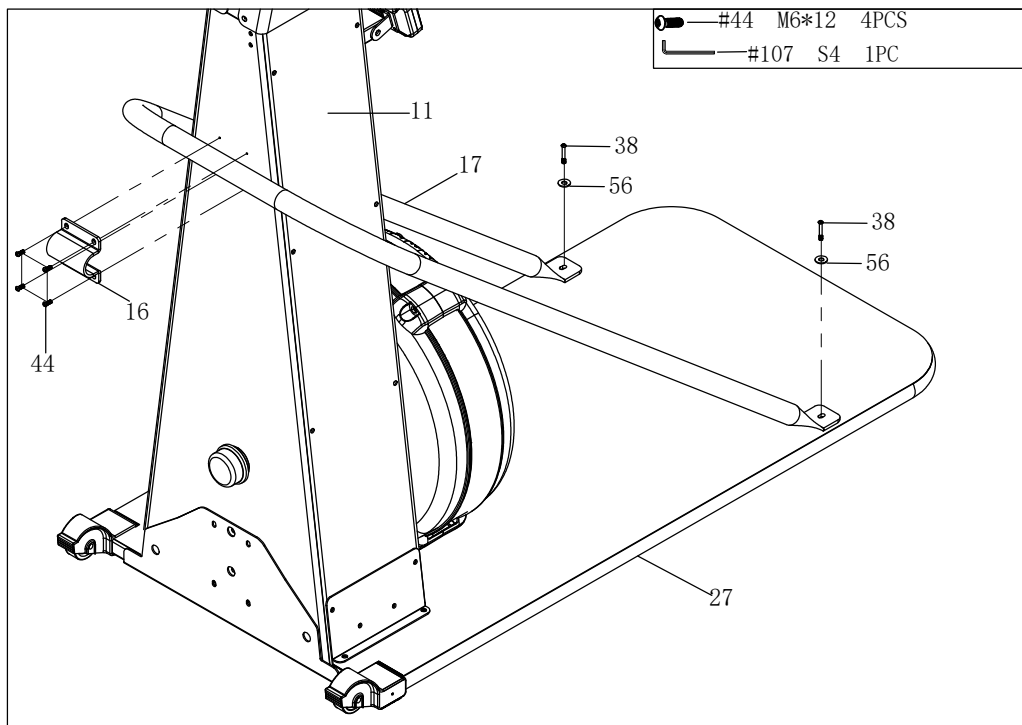

Fig. 14
1. Remove the connecting pipe fixing plate (16) and the four bolts (44) from the main frame (11) (Fig. 14).
2. Remove the connecting pipe (17), two bolts (38) and two washers (56) from the bottom board (27) (Fig. 14).